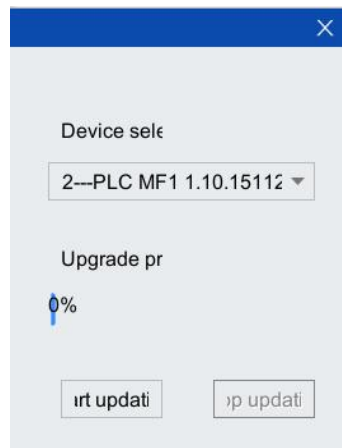
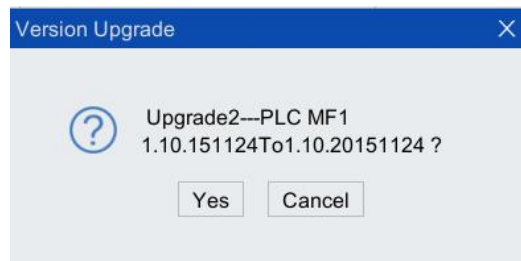

Figure 8-46 "Upgrade" window
Figure 8-47 "Are you sure to upgrade MF to the corresponding version" dialog box
Step3. Pop up "Upgrade" window shown in Figure 8-46, find "PLC\_MF" option in "Equipment Selection", and then click <Start Update> button. Pop up "Upgrade2---MF \*\*\*? " dialog box in Figure 8-47, and click <Yes> Button to pop up the upgrade progress bar. The MF file upgrade will take about 30 s.